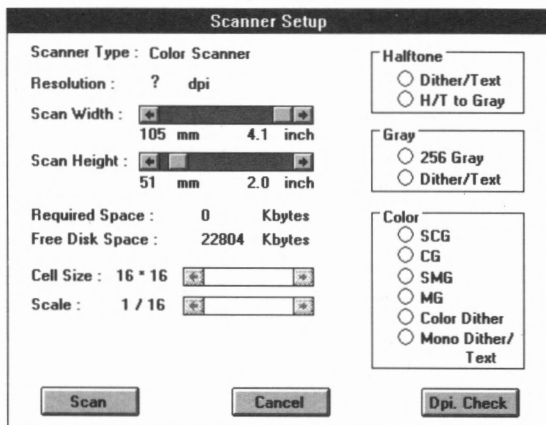

Figure 2-3. The Scanner Setup Dialog Box
3. Now choose **Scan Acquire** to display the Scanner Setup dialog box (Figure 2-3).